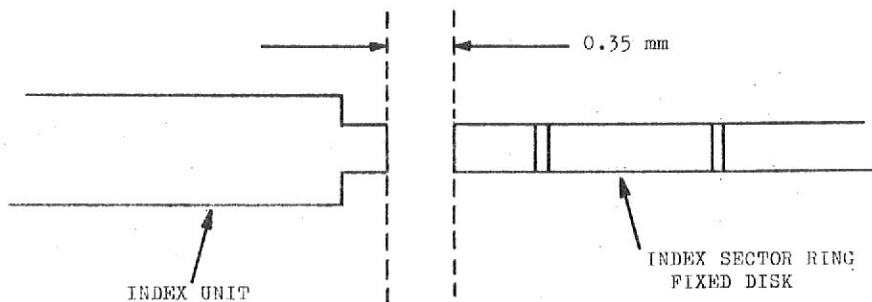

Fig. 7-28
2. Adjust the index unit with respect of the sector ring by means of a feeler gauge 0.35 mm. See figure 7-28.